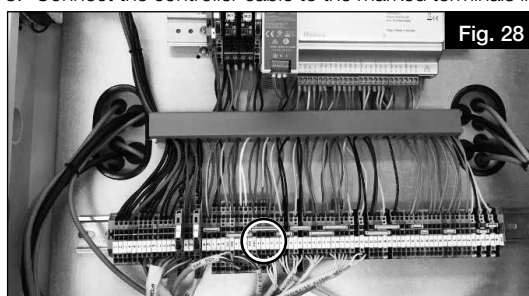

Fig. 28
3. Connect the controller cable to the marked terminals in the terminal box, see wiring diagram, section 2.3.6 (Fig. 28).